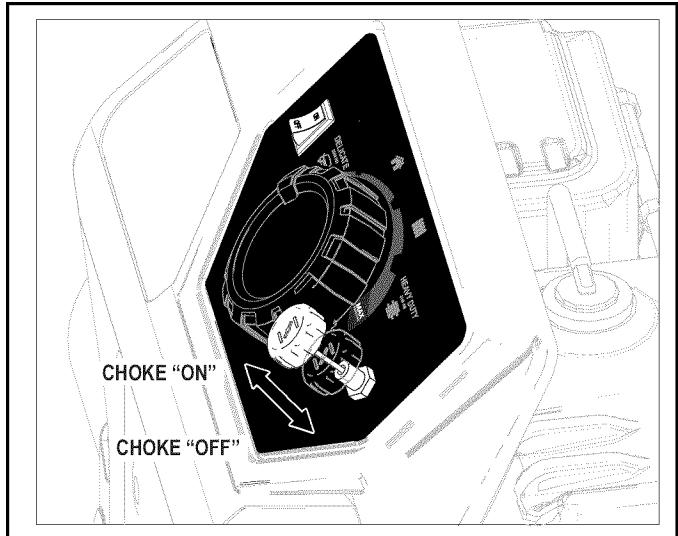

Figure 5-6. Choke Knob
- When engine starts, slowly push the choke knob in to the "OFF" position as engine warms. If engine falters, pull choke knob out to the "ON" position, then push in to the "OFF" position (Figure 5-6).